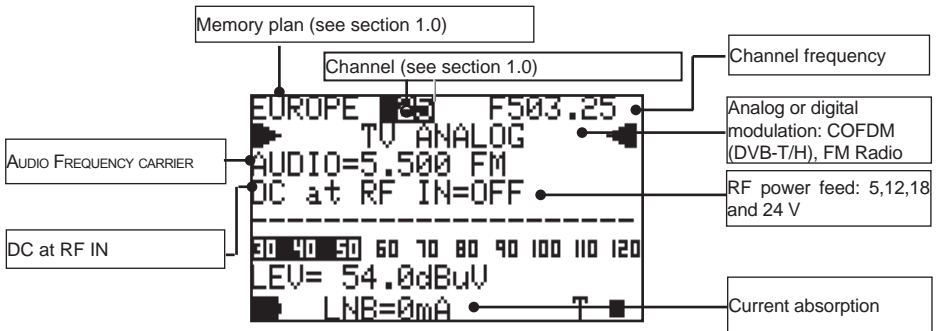

Fig. 4.1 Analog signal First Measurement Level
- 1) It is only possible to change all the tuning parameters in the first measurement level, shown in fig. 4.1 and only for the user generated plans (MANU).
- 6) Press briefly the "POWER ON" key [20] to return to the first measurement level shown in Fig. 4.1 .